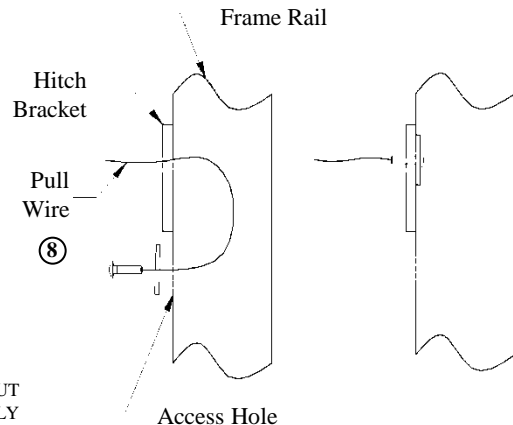

FIGURE 2
3. Use pull wires to feed carriage bolts and blocks through the access holes in the sides of the frame. Position the carriage bolts and blocks through the holes in the frame and the bracket of the hitch as shown in Figure 2.